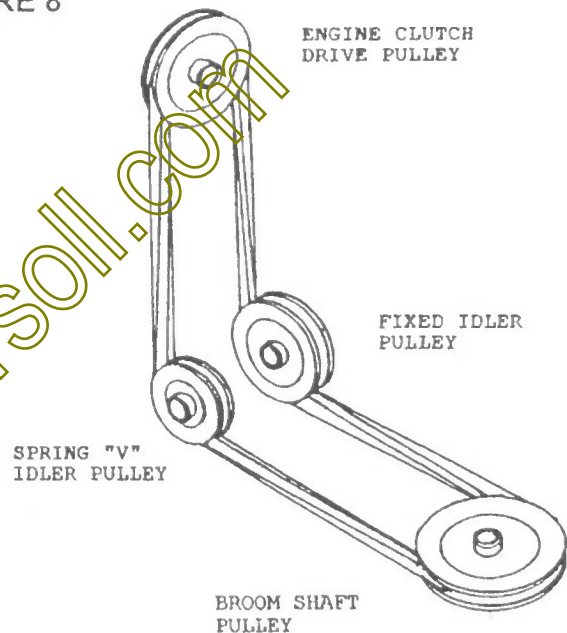

FIGURE 9
- d) Route the V-belt under the idler pulleys and on the engine clutch drive pulley as shown in figure 9. Pull down and back the tightener arm to put tension on the belt. Secure with 4mm hair pin (fig 4 item 2).
IMPORTANT: Be sure the belt is not twisted more than 90° and the V of the belt is on the V of the pulleys, see figure 9.